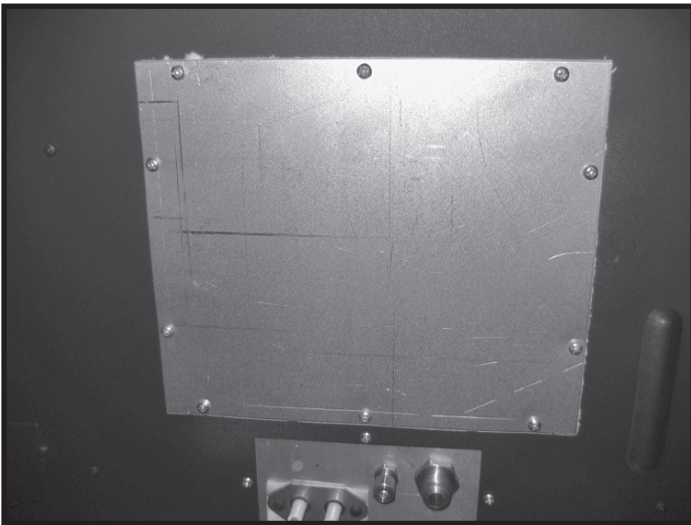

Figure 5: Access cover to valve control center.
4. Remove the 10 screws securing the access cover for the valve control center (Figure 5).
13. Once the gas and electrical lines are connected to the bulkhead and the interface module, reinstall the valve control center's access cover (Figure 5 on page 4). The panels are now ready to be installed.